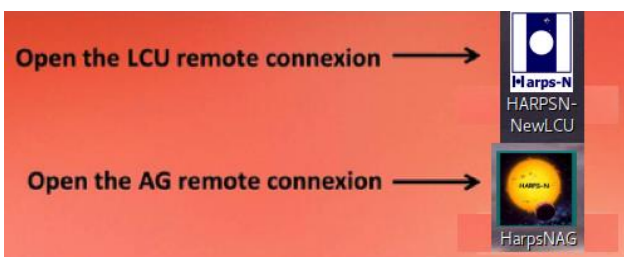

Figure 5 - WSOPER workstation desktop
- a) Click on the **HarpsNLCU icon (Figure 5)**, or open a shell from any linux machine and type:
- c) Click on the HarpsNAG icon (Figure 5) , or open a shell from any linux machine and type: